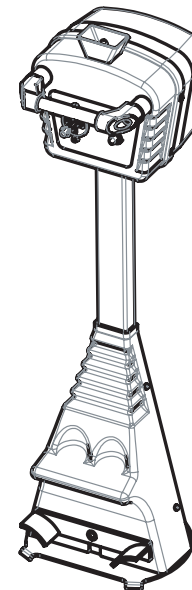

fig.3
COMANDO MOBILE (Fig.3)
MOBILE CONTROL UNIT (Fig.3)
**COMMANDE MOBILE (fig.3)**
**BEWEGLICHER STEUER-KNÜPPEL (Abb.3)**
**MANDO MOVIL (fig. 3)**